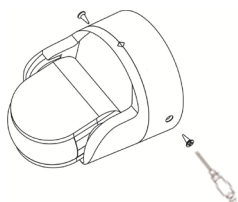

Figure 1
- Remove sensor from base by loosening grub screws at either side (Fig 1.)